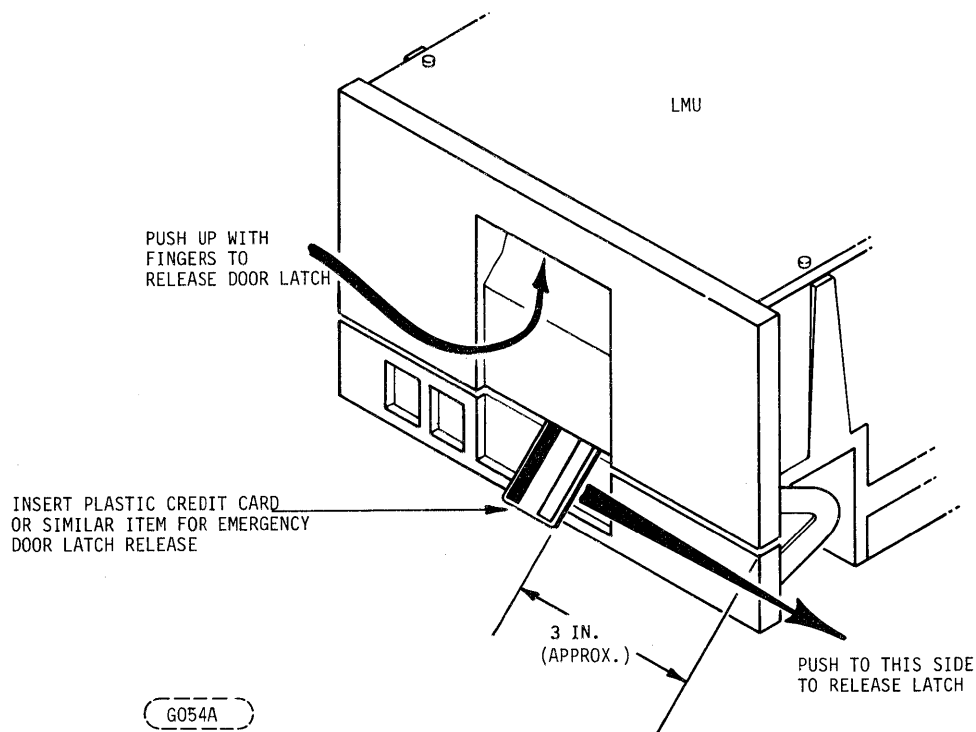

FIGURE 2-4. EMERGENCY/DRIVE FAILURE CARTRIDGE
In case of an emergency need to remove the cartridge, perform the following procedure (Refer to Figure 2-4):
2. See Figure 2-4. Insert a plastic credit card or similar object into the space between the access door and the lower front panel. Push the small release table behind the panel (about 3 inches from the right edge) toward the right with the card and hold while pushing up with the fingers on the door latch release. Pull the door open and remove cartridge. Close front door.